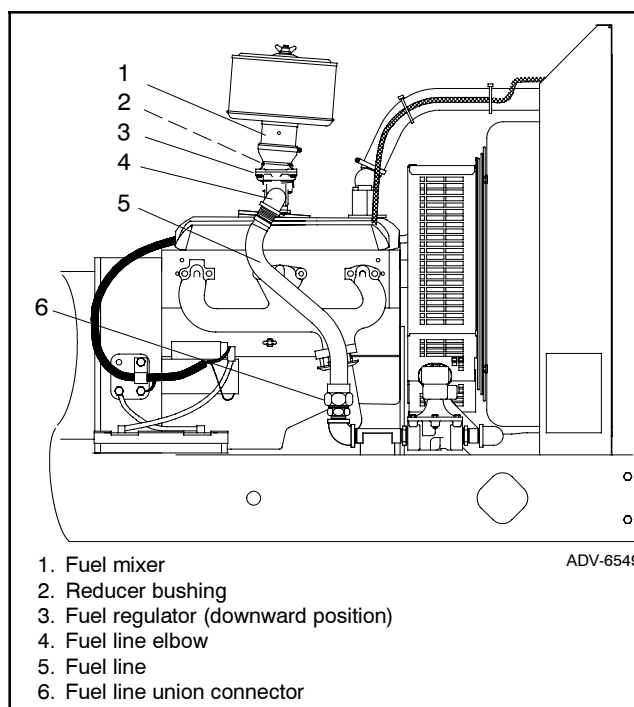

Figure 2 Fuel System Configuration, Typical
Figure 2 shows the natural gas configuration for the 50/60 kW models; the 30-45 kW and 80-125 kW models are similar.
- 2.1 Remove the components from the engine as shown in Figure 2.